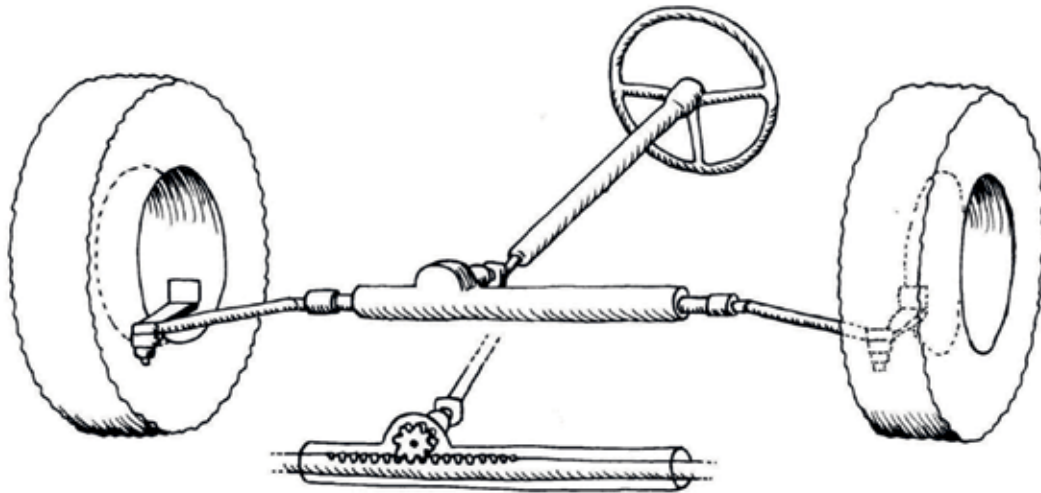

Figure 24: A rack-and-pinion car-steering system
In Figure 24, you can see that the steering wheel is connected to a pinion gear. When you turn the steering wheel, the pinion gear also rotates and moves the rack gear from side to side, a bit like an electric security gate.
6. (a) How many teeth does the pinion gear of the steering system in Figure 24 have?